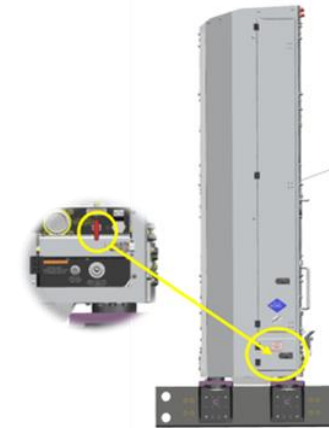

figure 1
- Arrière de la cabine figure 1